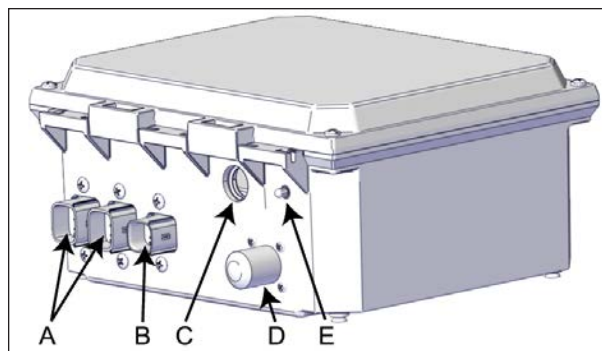

FIGURE 93: CONTROL BOX
3. Start by connecting the two motor jack harnesses to the AC control box, see Figure 93. Use the wires shown in Figure 7 in the Jack installation section. Put the exceeding wires as close to the spa as possible to hide and protect the wires.
4. Unpack the key switch and plug the harness into the AC control box, see item B in Figure 93.